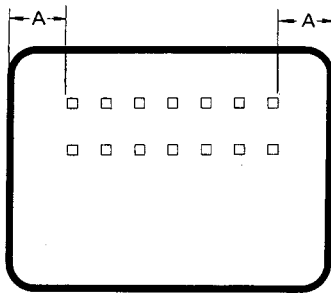

Fig. 5-7-1
- o Adjust VR1 (CHARACTER SIZE) so that the both side spaces between dots and screen edges become equal (A). (Fig. 5-7-1)